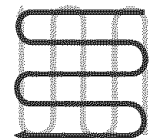

Fig. 4-7
• When preparing a seedbed, go over the same path twice in the first row, then overlap one-half the tiller width on the rest of the passes (see Fig. 6). When finished in one direction, make a second pass at a right angle, as shown in Fig. 4-7. Overlap each pass for best results (in very hard ground, it may take three or four passes to thoroughly pulverize the soil.)